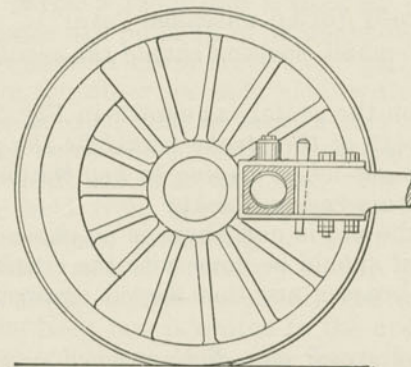

Fig. 215. Wheel and Crank.
A. When on the center, as shown in Fig. 215.